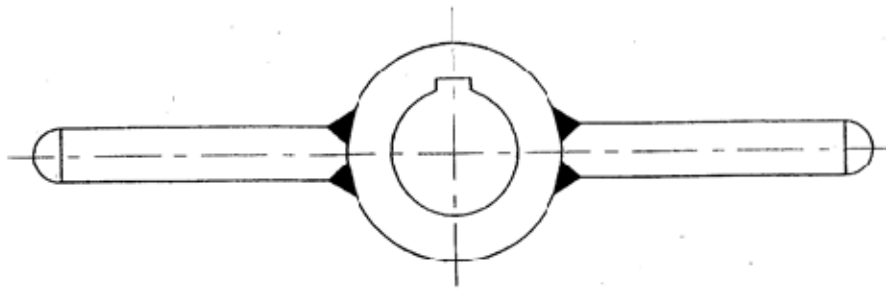

Figure 6-1 Shaft blocking tool
6. Tight impeller nut with proper wrench, on opposite shaft end use special tool (fig 6.1)
6.1 all of methods in this section refer to Fig 6-1.